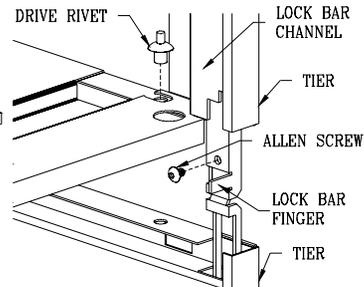

Fig. 1
2. **Disassembling Lock Bars (Fig. 1):** Using the Allen wrench provided, remove the Allen screws located on both the left and right side lock bars and set aside for re-assembly later. Now, lift up the tier in the front, slide towards you and set aside.